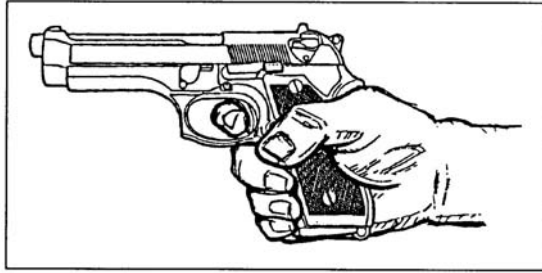

Figure 071-004-0006-2. One-hand grip
b. Unsupported grips. You may use any of three nonfiring hand grips to support your firing hand (figures 071-004-0006-3, 071-004-0006-4, and 071-004-0006-5).